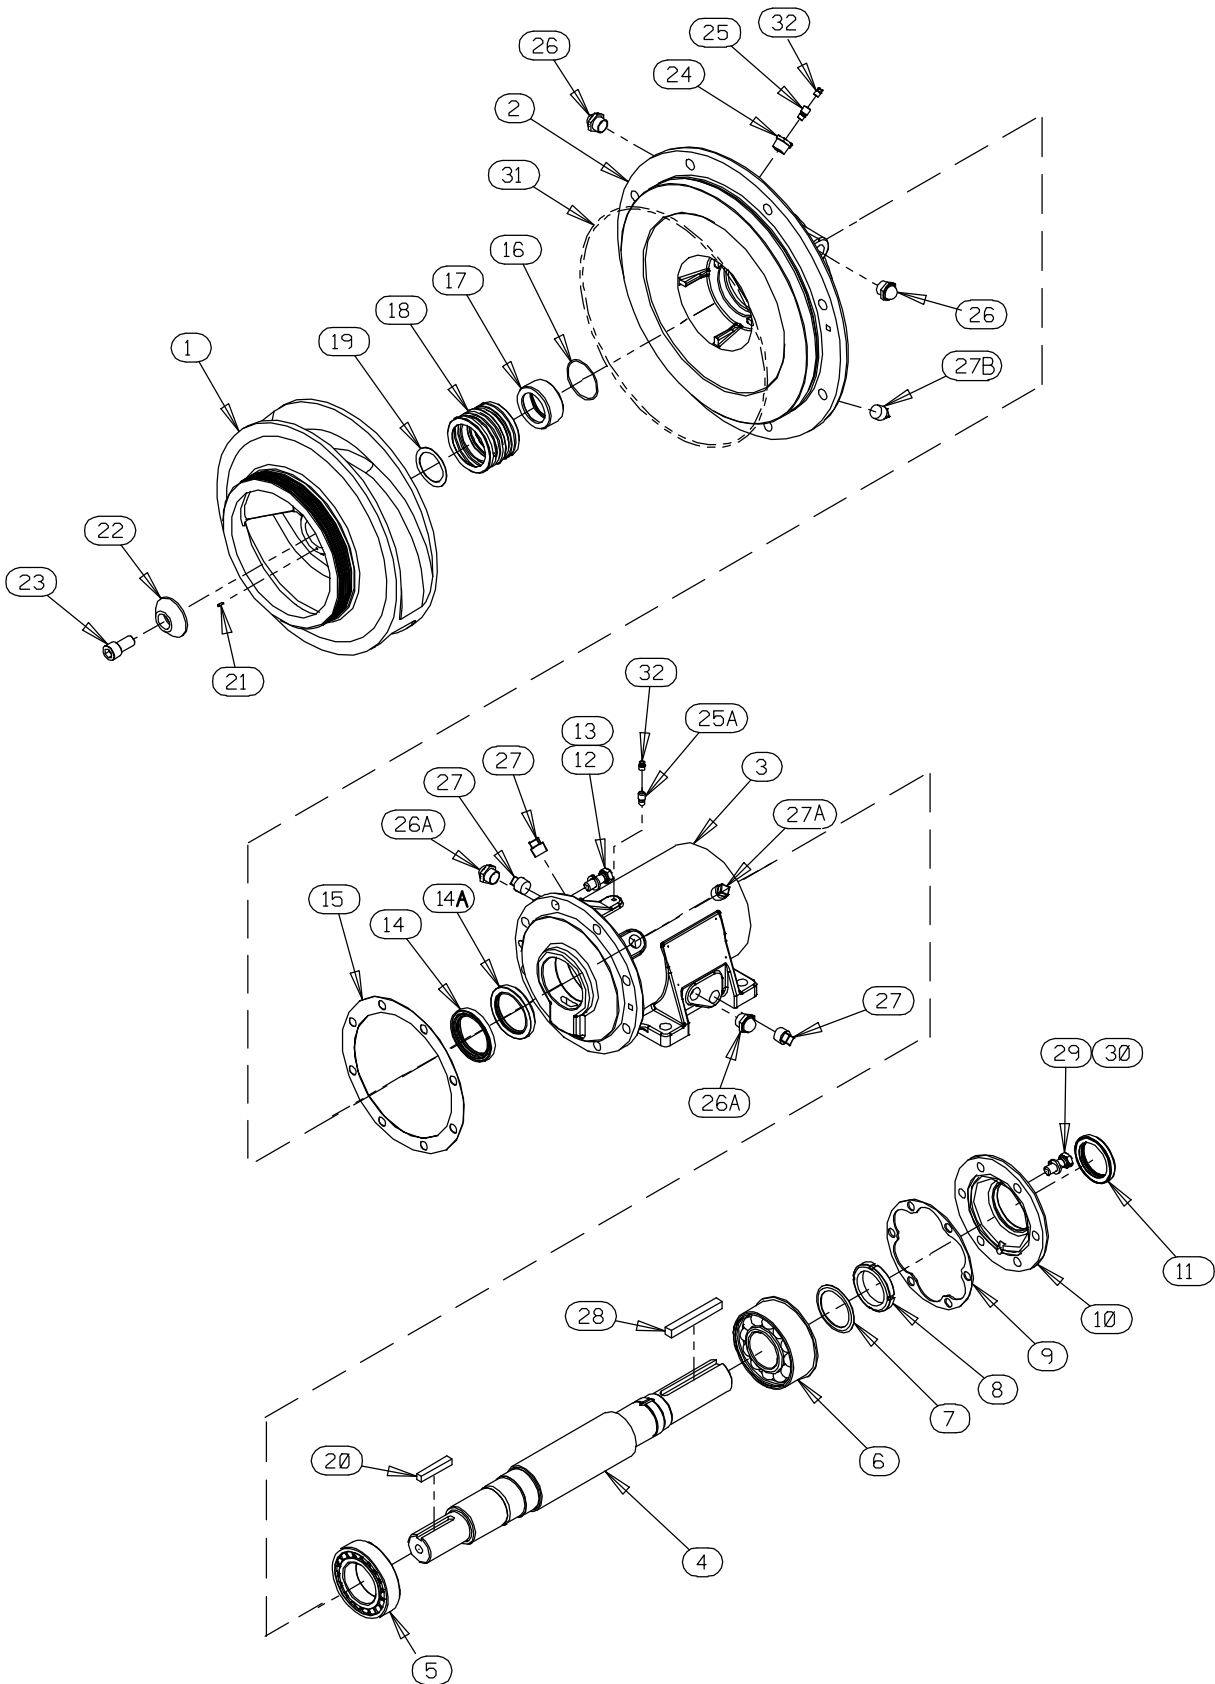

Figure 2. Repair Rotating Assembly
(Figure 2)
Further disassembly requires separating the rotating assembly from the power source. Remove the coupling securing the rotating assembly to the power source and remove the key (28, Figure 2).
Shaft and Bearing Removal and Disassembly (Figure 2)